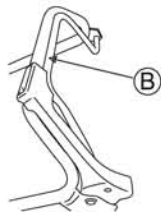

Fig. 18
4. Push Drive clutch lever (B) forward to start mowing. (See Fig. 18)